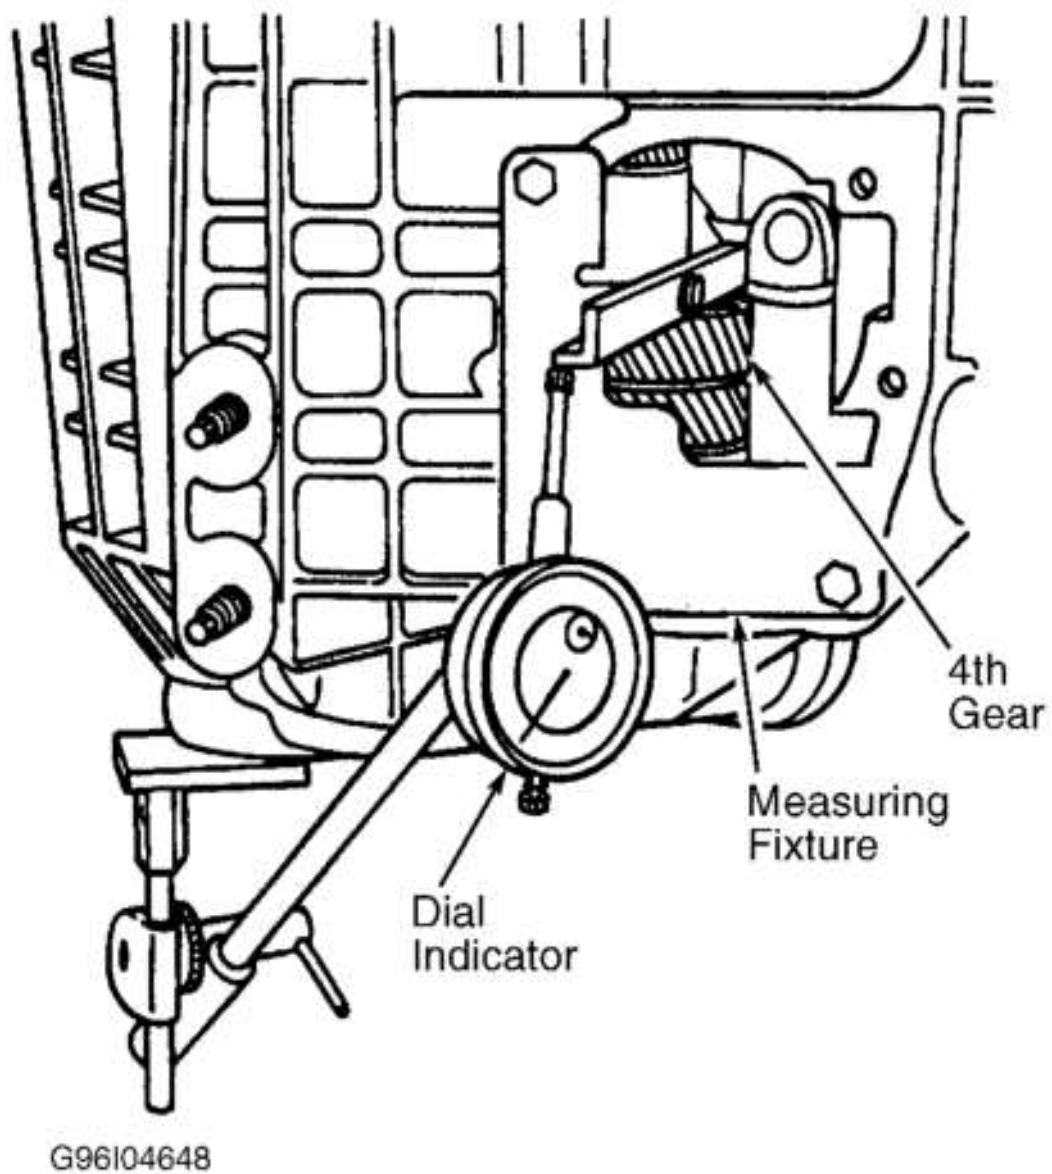

Fig. 15: Measuring Output Shaft End Play
8. To measure output shaft end play, mount dial indicator on transaxle case with indicator pointer on plunger arm of measuring fixture. See **Fig. 15**. Zero dial indicator. Rotate input shaft to seat bearings. Using pry bar, raise output shaft and note dial indicator reading. Repeat at least 3 times and calculate average reading.